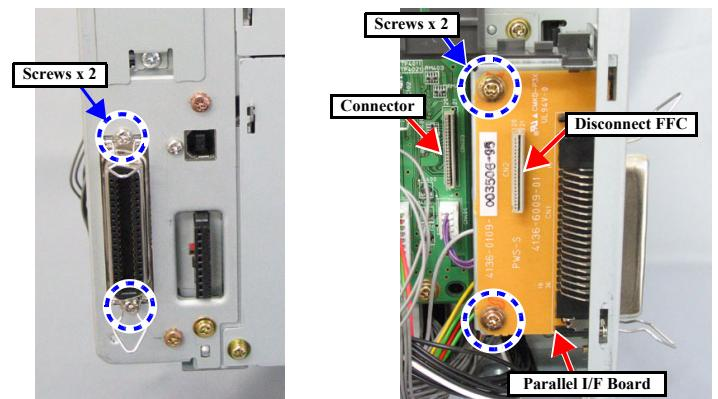

Figure 4-27. Removing the Parallel I/F Board
3. At the rear of the printer, remove the two screws on the I/F side. (See Figure 4-27)